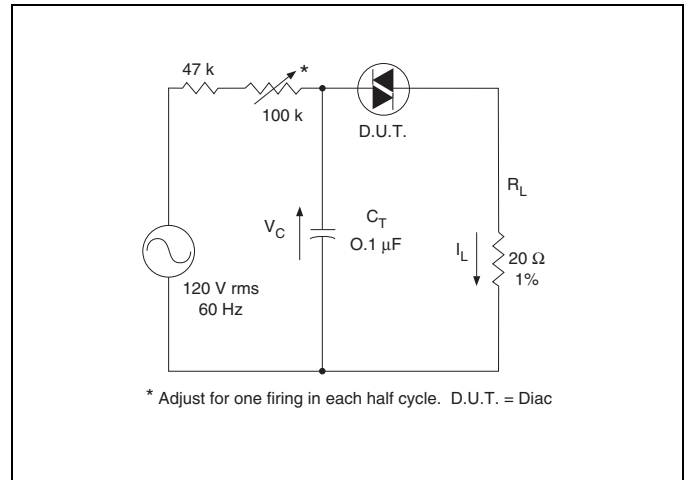
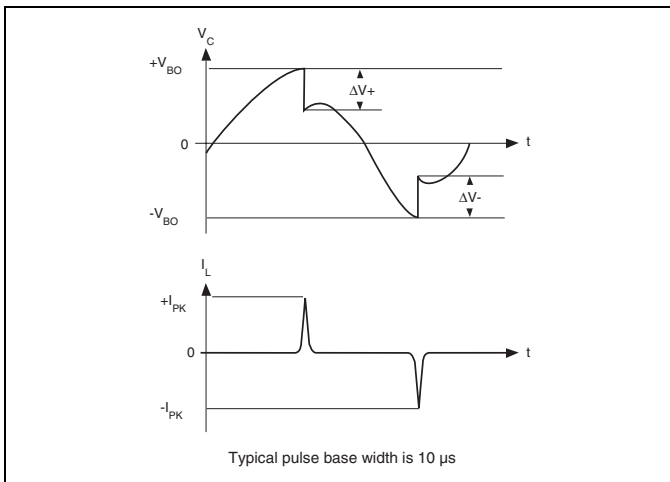

Figure E8.5 Circuit Used to Measure Diac Characteristics (Refer to Figure E8.4.)
Figure E8.4 Test Circuit Waveforms (Refer to Figure E8.5.)
- See Figure E8.4 and Figure E8.5 for test circuit and waveforms.
- Typical switching time is 900 nano-seconds measured at I_{PK} (Figure E8.4) across a $20\ \Omega$ resistor (Figure E8.5). Switching time is defined as rise time of I_{PK} between the 10% to 90% points.